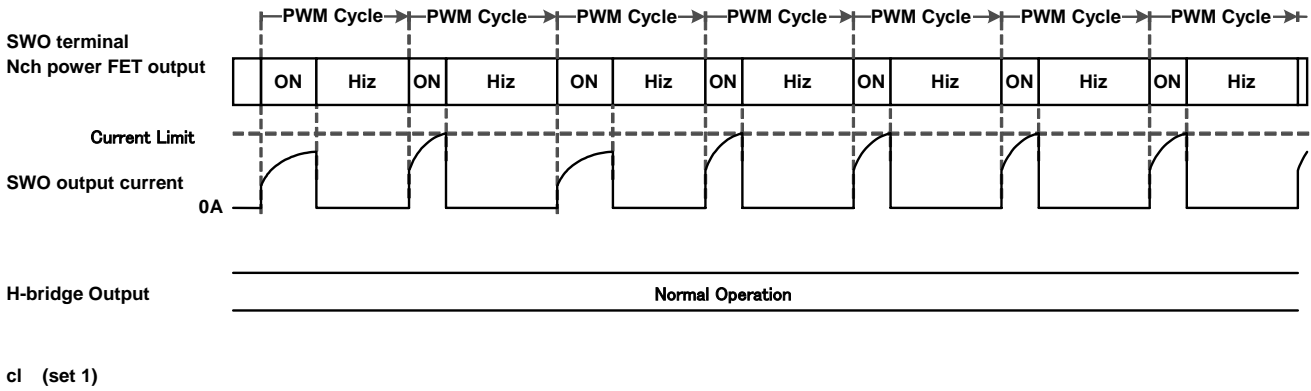

Figure 13. SWO output current limit timing chart
*8 When the SWO output is ON, it does sense of an SWO output current. And when its value is more than current I Current limit, it makes SWO output HiZ. The movement in CLCANCEL=1'b1 is Figure 13.